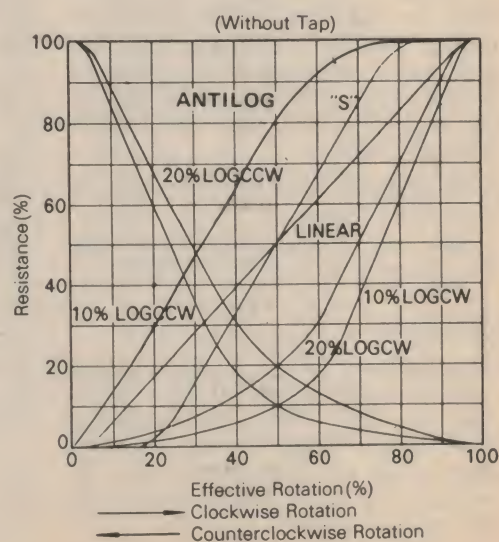

Fig. 10. The common resistance-versus-rotation 'laws' as 'tapers' for potentiometers.
The resistance 'law' or 'taper', as it is called, of a potentiometer refers to the manner in which the resistance changes (as measured between an end terminal and the wiper terminal) with rotation of the shaft. There are a considerable number of different 'laws' in common use. The main ones however are: linear, logarithmic, reverse logarithmic, and 'S' taper. These are illustrated in Figure 10. Note that various log tapers are used, the 20% log taper is the more common one however. The tapers for both clockwise (CW) and counter-clockwise (CCW) log are illustrated, as the potentiometer may be connected to operate in reverse fashion if desired (often as not though, it's a mistake!). The various common laws are given a letter code which is stamped or marked on the body of the assembly along with the resistance value. The code is quite straightforward, as follows:
Other laws include semi-log and linear-tapered. These have curves that lie between the log and linear curves on the graph in Figure 10. The semi-log law provides a somewhat greater change of resistance-versus rotation over the first 40% of shaft rotation than with the log curve. The linear-tapered provides a nearly logarithmic variation over the